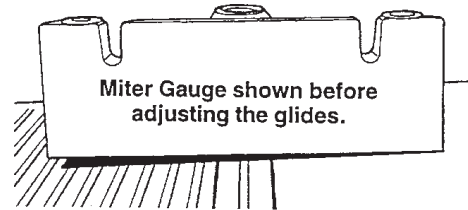

Figure B-80
- 48. Place the miter gauge in the worktable's miter gauge slot. See Figure B-80.